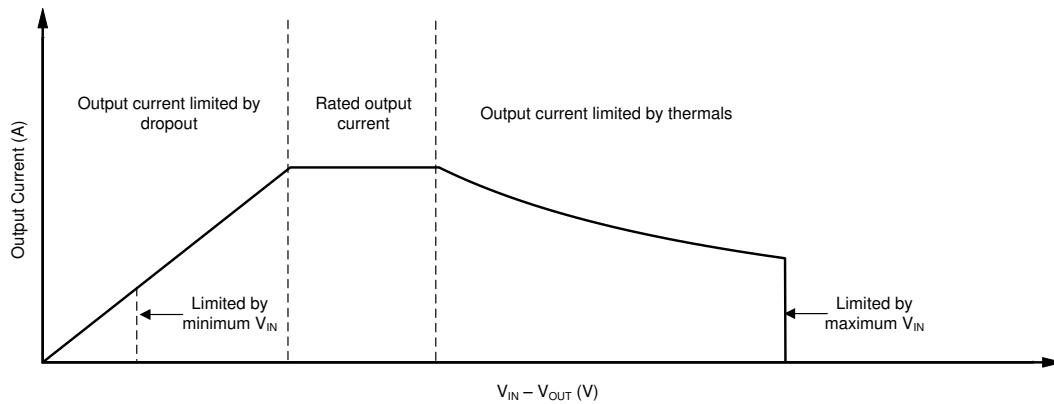

Figure 8-3. Region Description of Continuous Operation Regime
The operational area of an LDO is limited by the dropout voltage, output current, junction temperature, and input voltage. The recommended area for continuous operation for a linear regulator is given in Figure 8-3 and can be separated into the following parts:
- The shape of the slope is depicted in the third region of Figure 8-3. The slope is nonlinear because the maximum-rated junction temperature of the LDO is controlled by the power dissipation across the LDO. Thus, when $V_{IN} - V_{OUT}$ increases the output current must decrease.
Figure 8-3 shows the recommended area of operation for this device on a JEDEC-standard high-K board with a $R_{\theta JA}$, as given in the Thermal Information table.